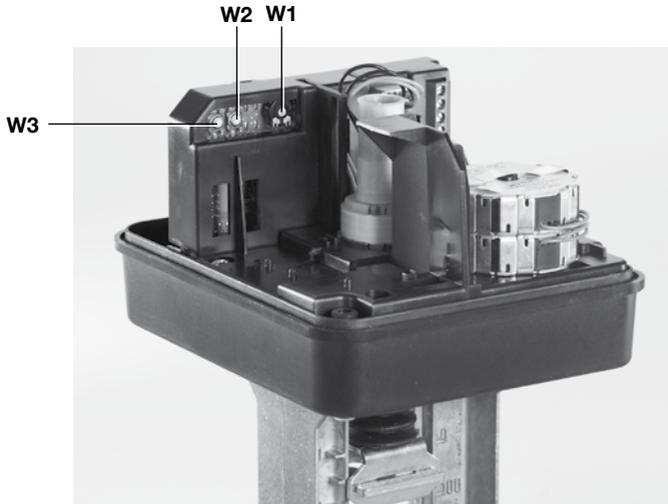

Fig. 30
4.3.1 Setting the W1 potentiometer (signal failure position, Figure 30)
4.3.2 Setting the W2 pushbutton (input signal range, Figure 30)
4.3.3 Setting the W3 pushbutton (reverse or direct acting, Figure 30)